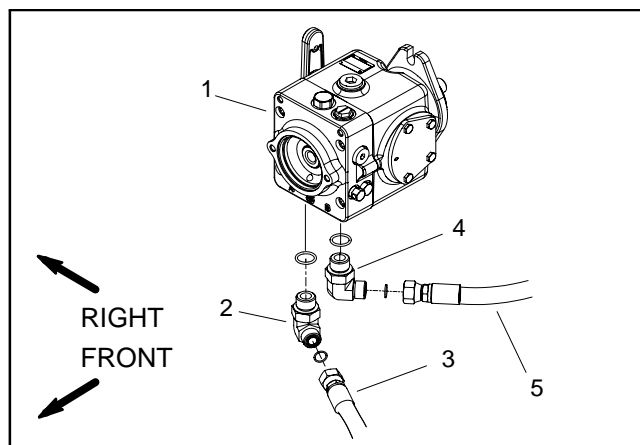

Figure 63
3. Thoroughly clean junction of hydraulic hose and left side elbow fitting on bottom of traction pump (Fig. 63). Disconnect hose from left side pump fitting.